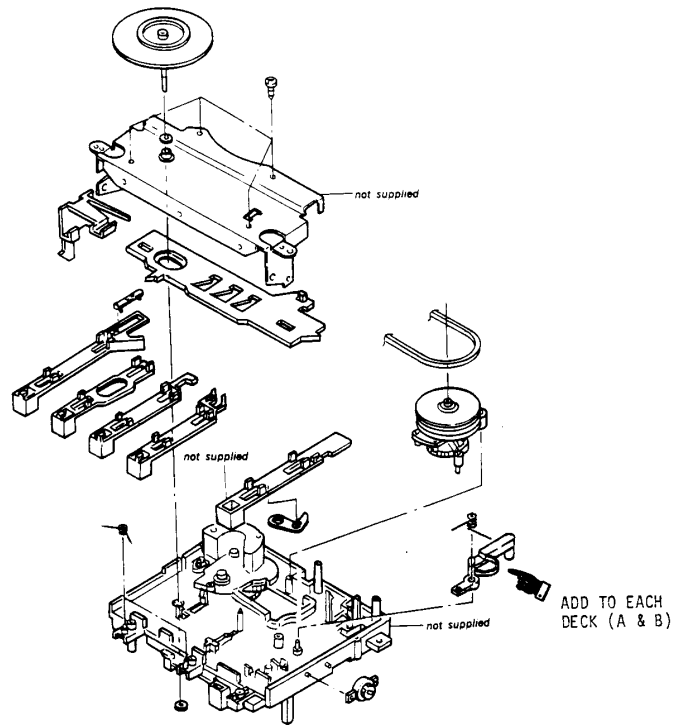

FIG.2 MECHANISM DECK
2. Install both motor levers in the location indicated in the mechanism deck exploded view (see Figure 2). Use one (1) for deck A and one (1) for deck B.